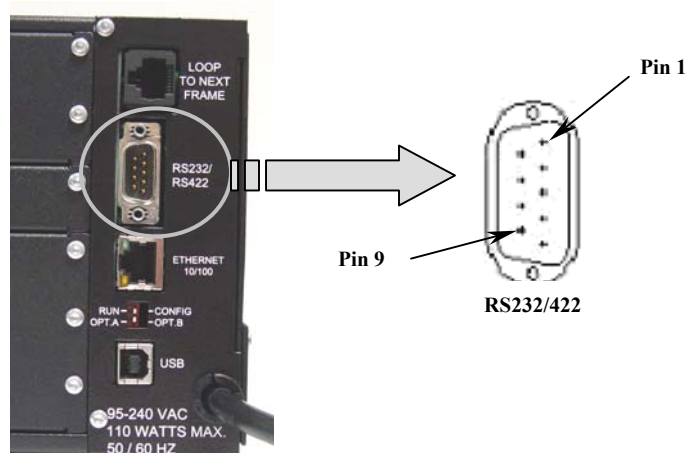

FIGURE 14: RS-232/422 Control Connector
- RS232 Pinout Structure (see Figure 14)